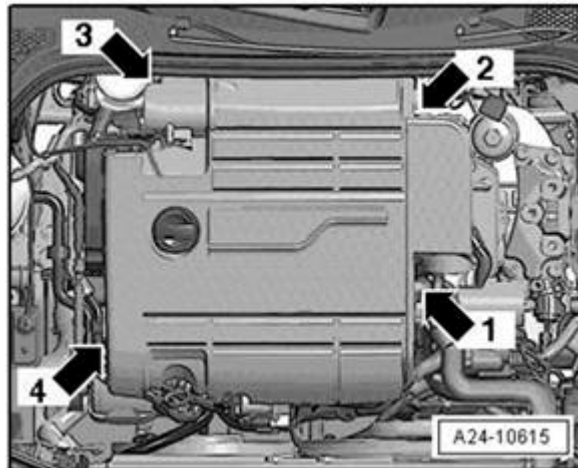

Figure 1. Remove cover in order – 1, 2, 3, and then 4.
1. Carefully pull off engine cover panel at positions 1, 2, 3, and then 4 one after the other (Figure 1).